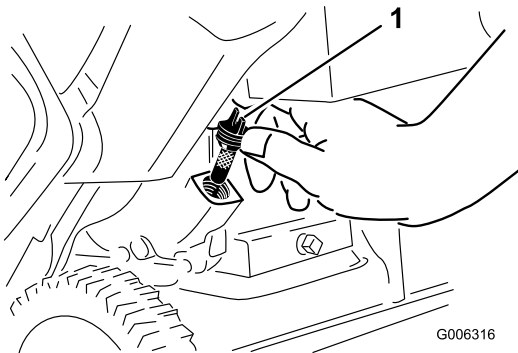

Figure 30
6. Clean around the oil-fill cap (Figure 30).
7. Unscrew the oil-fill cap and remove it (Figure 30).